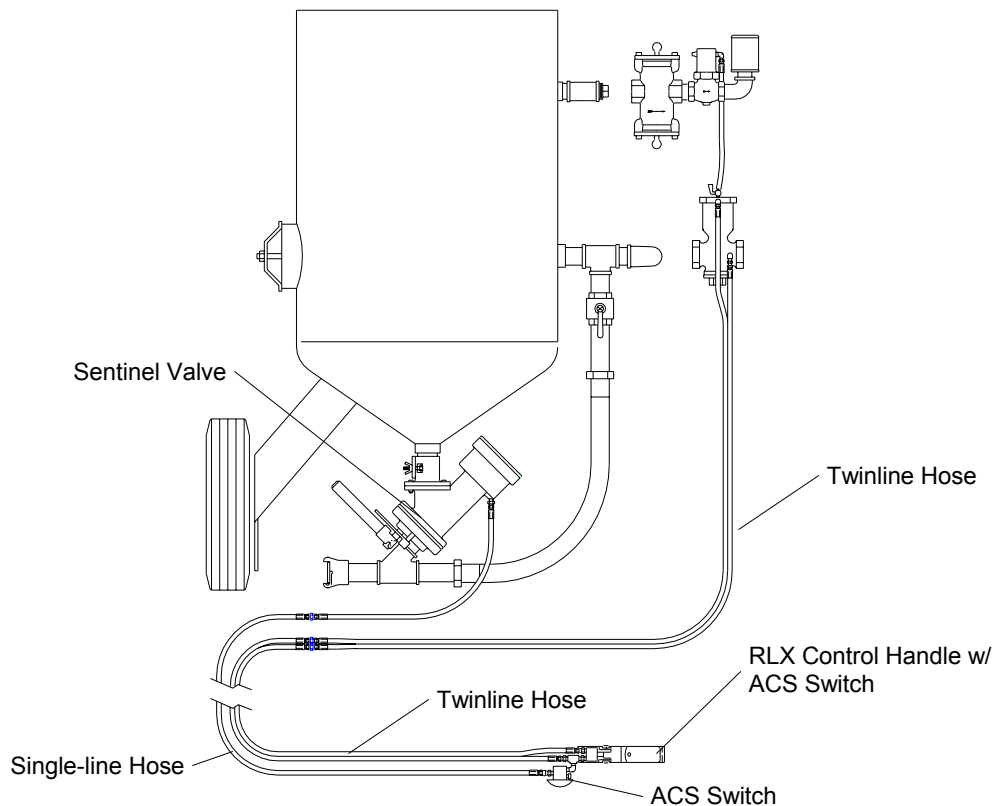

Figure 1
1.1.1 This manual covers the installation, operation maintenance, and replacement parts of the Clemco Sentinel standard-use and fine-mesh media control valves. The Sentinel valve is only one part of a blasting system. The operator must be experienced in the safe operation of all other equipment used with the valve, such as the blast machine and remote controls, and with the hazards associated with abrasive blasting. To ensure safe blasting, read the manuals for all devices used in conjunction with the Sentinel valve. Typical applications are shown in Figures 1 and 2.
1.3.1 The Sentinel is a normally-closed, pneumatically-operated media control valve. The valve can be joined with a remote control system, as shown in Figures 1 and 2, to stop the abrasive flow each time the blast machine is depressurized. It can also be used with a pressure-hold system, to stop the abrasive flow while the machine remains under pressure.
2.8.1 If a Clemco remote control with ACS control handle is used, connect the "single" control line to the fitting on the upper body as shown in Figure 1. Refer to the blast machine and remote control manuals for set-up and operation of the particular equipment.